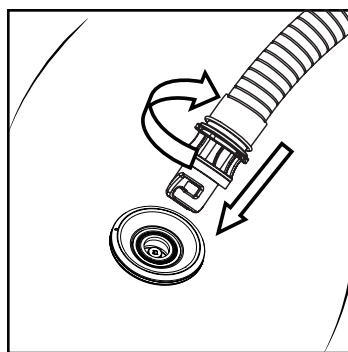

Fig.2
- Connect the other end of the hose to the supporting air tap of the air bag, and twist clockwise to tighten it. Then insert the inflation valve of the air bag and twist clockwise to tighten it, as in Figure 2.